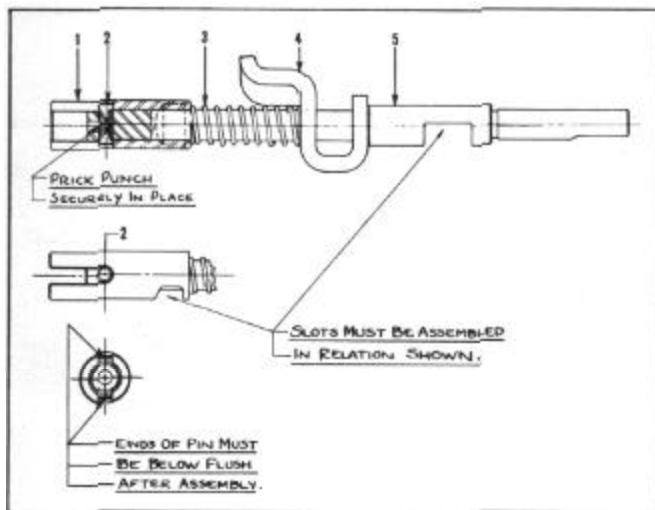

FIGURE 5
6. Drive out O.D. Shift rail pin (2), Figure 5, remove sleeve (1), spring (3), and shifter fork (4).
NOTE: Check position of shift rail slots as shown in Figure 5 at assembly. (THIS IS IMPORTANT).
5. If shift rail assembly has been taken apart, prick punch pin (3), Figure 5, securely in place before reinstalling assembly.